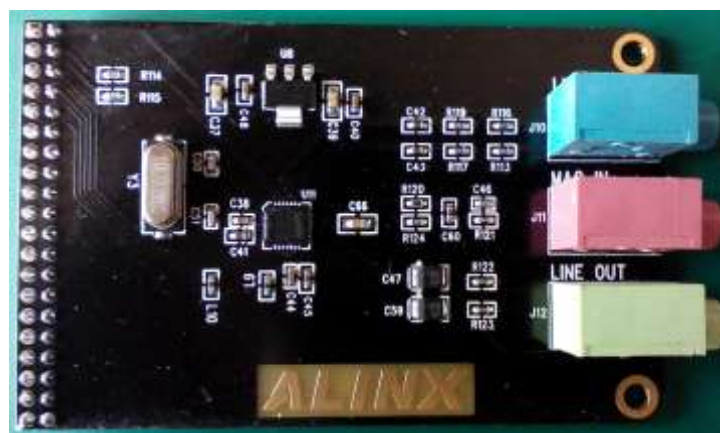

Figure 1-3: AN831 Audio Module
2. Audio Module: Figure1-3: AN831 Audio Module